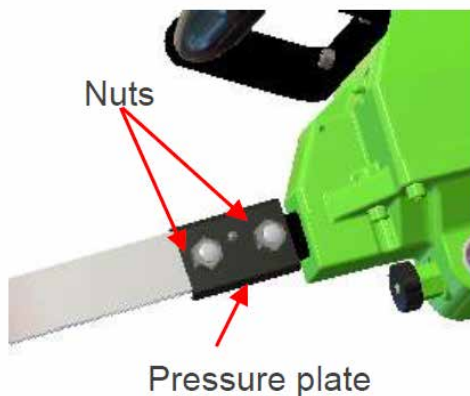

Fig.3
Remove the locking cap from the air connection 3 (see fig. 3). Connect the pneumatic hose (not contained in the scope of delivery).
- Equip the saw with the appropriate saw blade. For this, loosen the nuts (see fig.3), remove pressure plate and mount the saw blade. Mount the pressure plate and fix it to the saw blade by tightening the nuts.